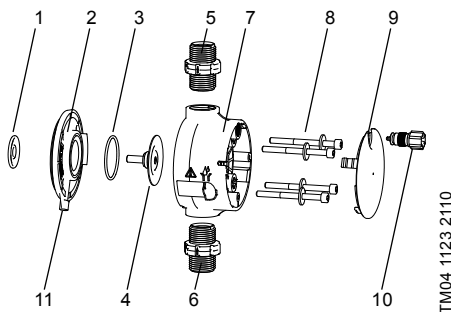

Fig. 41 Changing the diaphragm and valves
Daily	Check, if liquid leaks from the drain opening (fig. 41, pos. 11) and if the drain opening is blocked or soiled. If so, follow the instructions given in section 7.6 Diaphragm breakage.
This section refers to fig. 41.
If the diaphragm leaks or is broken, dosing liquid escapes from the drain opening (fig. 41, pos. 11) on the dosing head.
In case of diaphragm breakage, the safety diaphragm (fig. 41, pos. 1) protects the pump housing against ingress of dosing liquid.
When dosing crystallising liquids the drain opening can be blocked by crystallisation. If the pump is not taken out of operation immediately, a pressure can build up between the diaphragm (fig. 41, pos. 4) and the safety diaphragm in the flange (fig. 41, pos. 2). The pressure can press dosing liquid through the safety diaphragm into the pump housing.